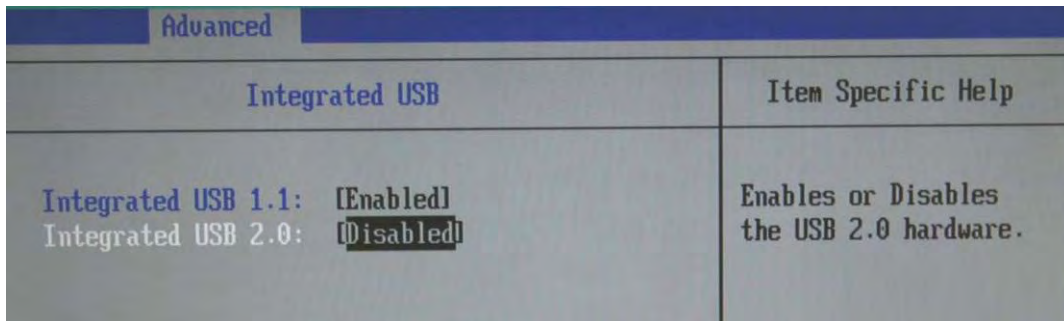

Figure 1-105. USB Settings
8. Verify the integrated USB 2.0 is Disabled. If required, change it to **Disabled**, using the **Shift** and **+** key (Figure 1-105).